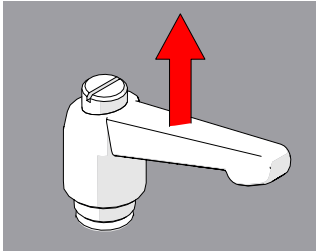

Fig. 57 - Pull ratchet handle
1. Pull the ratchet lever away from the base to which it is connected (*Fig. 57*).